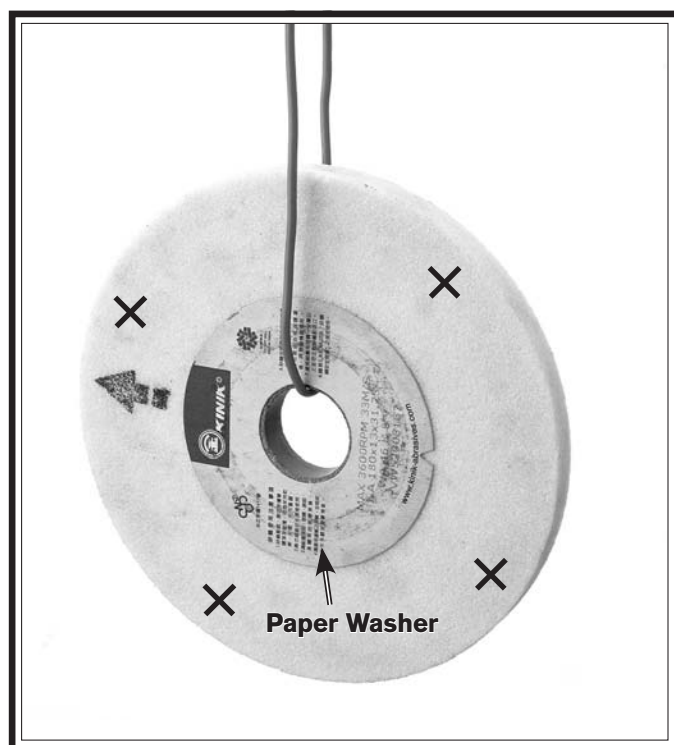

Figure 30. Ring test setup and test locations.
2. Hang the wheel in the air with a piece of cord or string looped through the hole in the center, as shown in **Figure 30**.
3. At the locations shown in **Figure 30**, gently tap the wheel with a light non-metallic device such as the handle of a screwdriver or a wooden mallet.